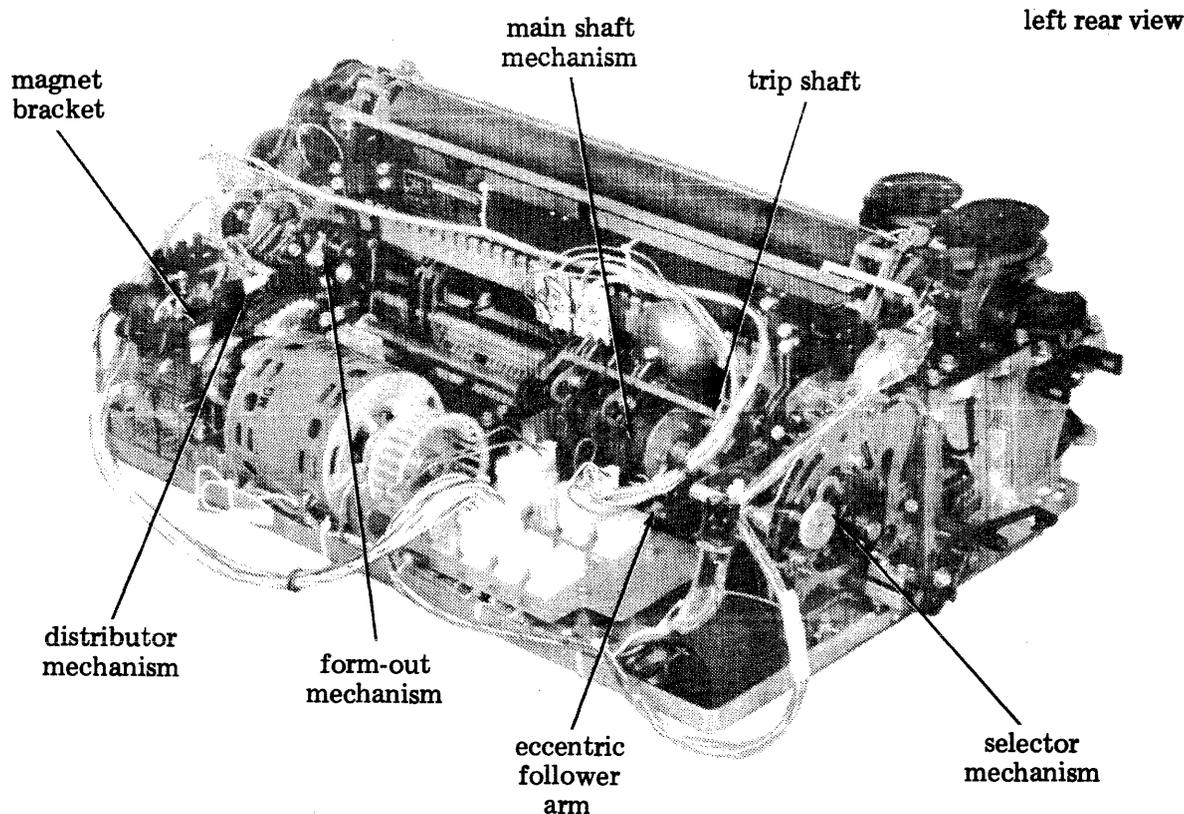

Figure 5 - Main Shaft and Distributor Mechanisms
2.17 Disassemble main shaft mechanism (Figure 5) as follows:
2.19 Disassemble distributor mechanism (Figure 5) as follows: